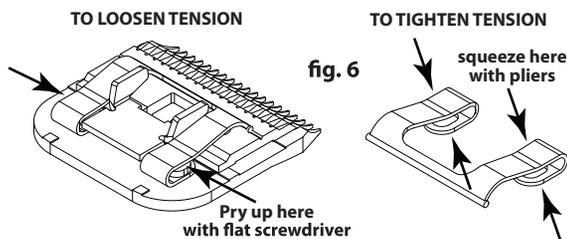

fig. 6
**Blade Tension (fig 6)** - It is important to maintain proper blade tension to guard against excessive heat build-up in the blades during use. To check for proper tension, hold the blade so the spring clip faces you. Using both thumbs (and with blade clean and lubricated) slide the cutter back and forth. You should be able to move the cutter without a lot of effort. If the cutter is very tight and difficult to move, the blades will heat up prematurely, and the tension should be loosened. However, if the cutter moves too freely, hair and debris could become jammed between blade parts, causing the blades to stop cutting suddenly. Tighten tension as described herein. Please note that the screws holding the spring clip in place should always be tight and are not a means of adjusting tension.